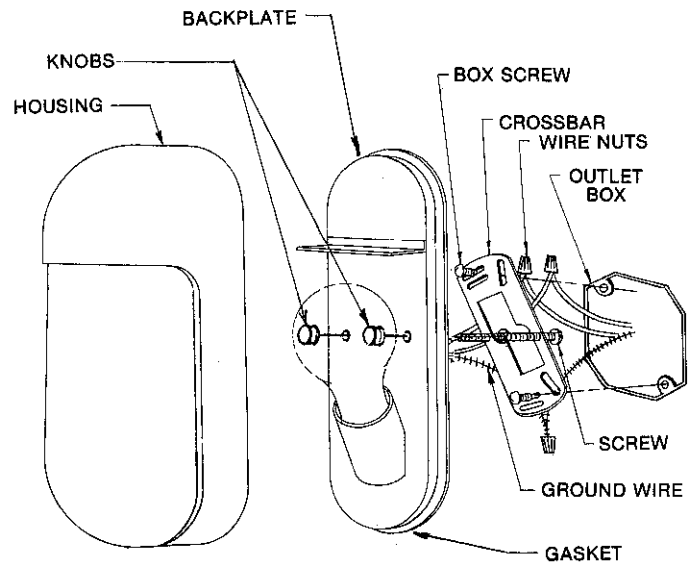

FIG. 1
3. Make connections: Black fixture lead or fixture lead without tracer mark to black supply lead; white fixture lead or fixture lead with tracer mark to white supply lead. Attach bare GROUND WIRE to outlet box grounding screw (or to other system ground). Use WIRE NUTS (local hardware item). Place connections in OUTLET BOX. See Fig. 1.
4. Secure FIXTURE BODY to OUTLET BOX by placing FIXTURE BODY over NIPPLE and threading KNOB tight against FIXTURE BODY. See Fig. 1. FIXTURE must be mounted so that SOCKET is at bottom of FIXTURE.